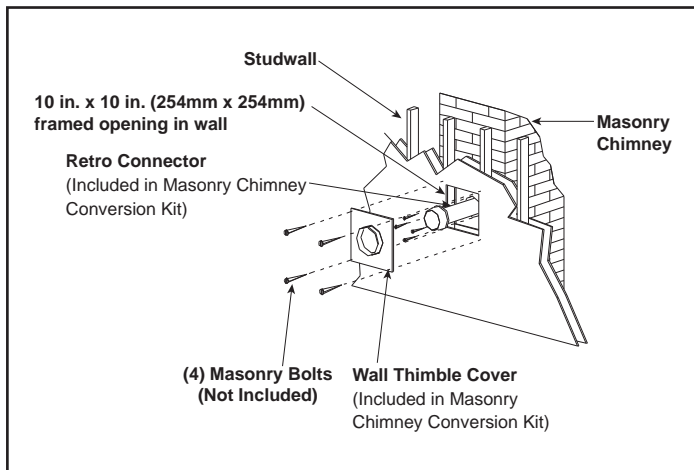

Figure 4.14
2. Once the center point of the penetration has been determined, cut a 6 in. (152mm) diameter hole in the masonry. If the hole is too large, the retro connector might not mount properly; if the hole is too small, the appliance might starve for intake air. If there is a frame wall in front of the masonry wall, cut and frame a 10 in. (254mm) square opening in the wall (centered around the 6 in. (152mm) masonry opening). If there is sheet rock only (no studs) in front of the masonry the 10 in. (254mm) opening is still needed, but does not need to be framed. If the hole is framed a wall thimble is required. This allows the retro connector to mount directly on the masonry and provide the correct clearances to combustibles. See Figure 4.14.
- Slide wall thimble cover over retro connector and secure with masonry bolts. See Figure 4.19. If you have a framed wall in front of the masonry, use wood screws to mount wall thimble cover to framed wall, over retro connector and 10 in. (254mm) square framed opening. See Figure 4.14. If needed, add a section of direct vent pipe to the retro connector in order to extend through the opening in the wall thimble cover.